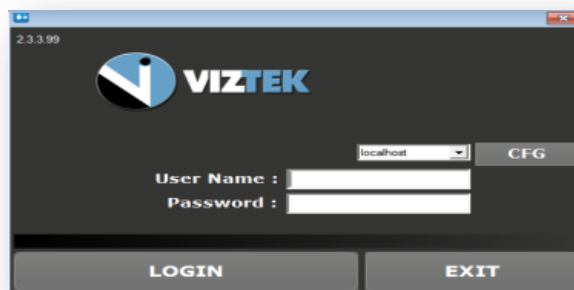

Figure 3
4. Login using username and password. **Figure 3**